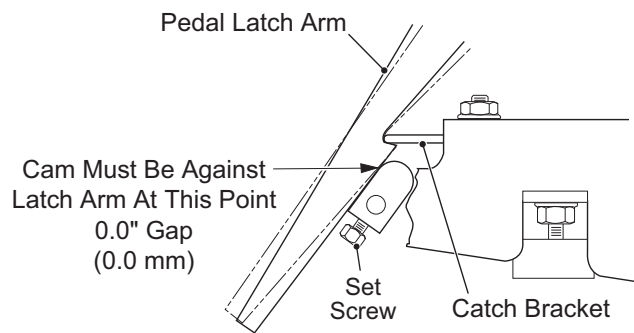

Fig. 11 Kick-off Cam Inspection
- Replace if showing signs of wear or damage (Ref Fig. 11).